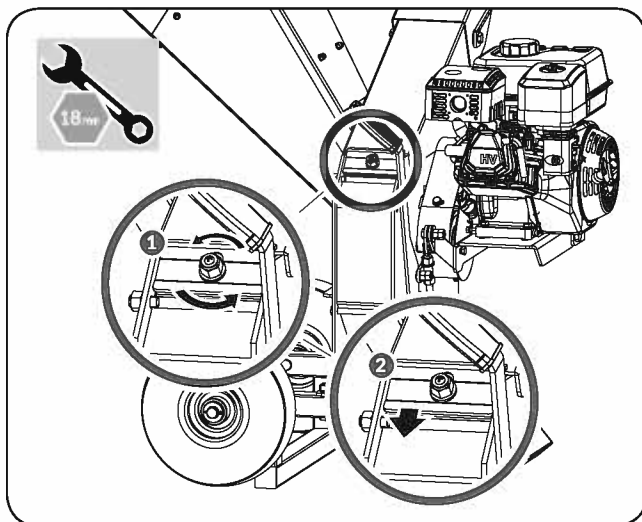

Figure 11
1. Open the plastic oil plug. (See **Figure 11**)
2. Slide down the fixing plate under the lock nut. (See **Figure 11**)